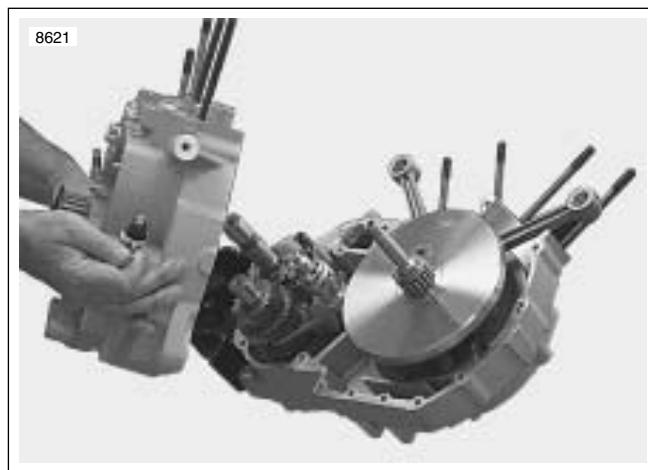

Figure 6-91. Crankcase Halves
5. See Figure 6-91. Assemble crankcase halves together.